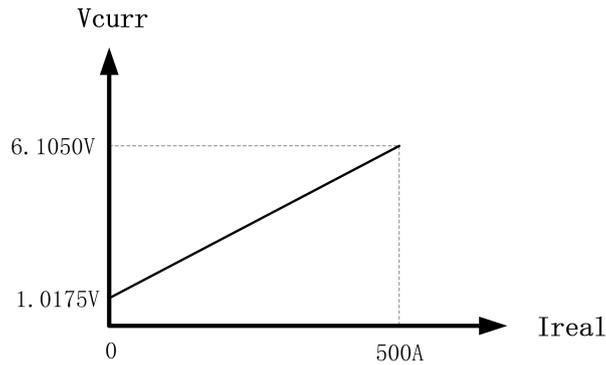

Fig. 4-15 Proportional diagram: real welding current V.S. voltage of analog output signal
1. The proportional diagram between the real welding current displayed on machine panel and the analog output value for welding current from the machine is shown in Fig. 4-15.